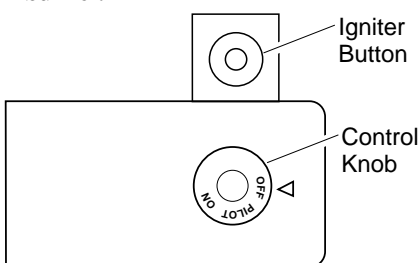

Figure 23 - Control Knob and Ignitor Button Location (Shown as Supplied, No Control Options)
5. Wait five (5) minutes to clear out any gas. Then smell for gas, including near the floor. If you smell gas, STOP! Follow "B" in the safety information, page 12 column 3. If you don't smell gas, go to the next step.
6. Press in and turn control knob counterclockwise to the PILOT position. Press in control knob for five (5) seconds (see Figure 23).